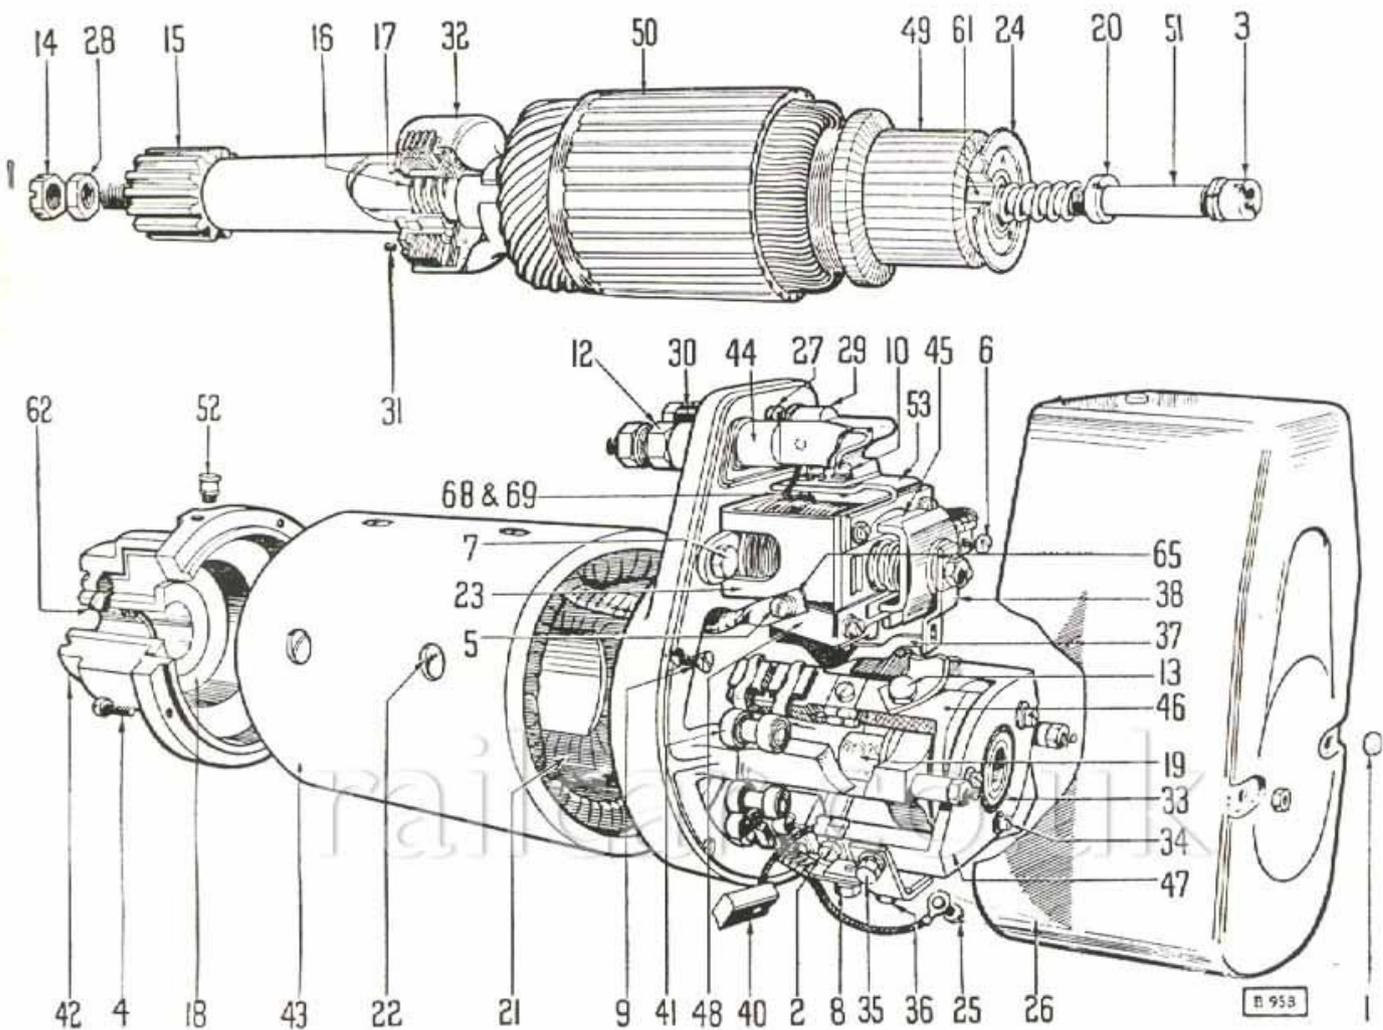

Fig. 63. Exploded view of C.A.V. starter motor.
(See Fig. 63).
(See Figs. 63, 64, 65 and 66).
Remove the screws securing the main and auxiliary field coil connections to the solenoid switch. These screws are numbered (5), (6), (8) and (25); the other screw is on the side of the solenoid switch lower fixed contact opposite to (5) and is not visible in Figure 63.
starter motor (see Figs. 63 and 67) is only possible if these instructions are followed with the greatest care:—
Stand the starter motor on end, pinion uppermost. Slacken the thin shaft nut, keep the pinion held down firmly against its spring pressure, and take off the nut and distance washers (not shown in Figure 63); remove the plug and spring.
(See Figs. 63, 66, 67 and 69).